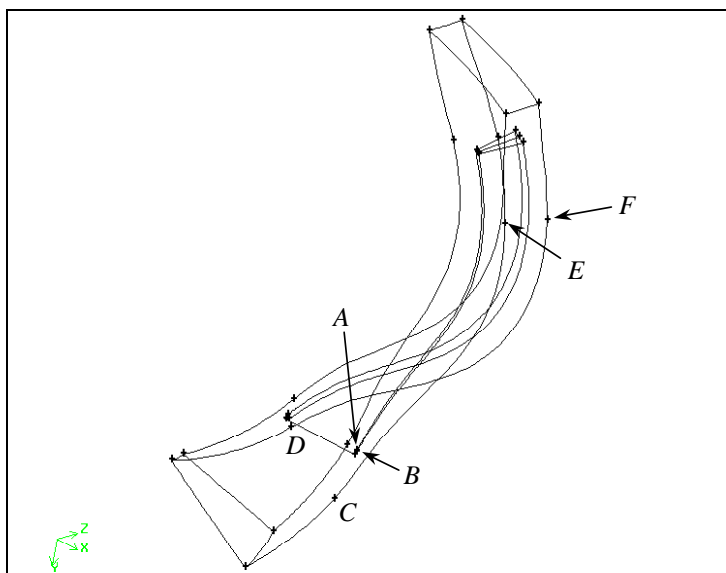

Figure 9-7: Turbo volume with pre-decomposition splits
GAMBIT assigns the zone types and splits the blade and periodic edges as shown in Figure 9-7.
- a) Select the suction-side, upstream split-point vertex on the casing face turbo blade cross section (vertex A in Figure 9-7, above).